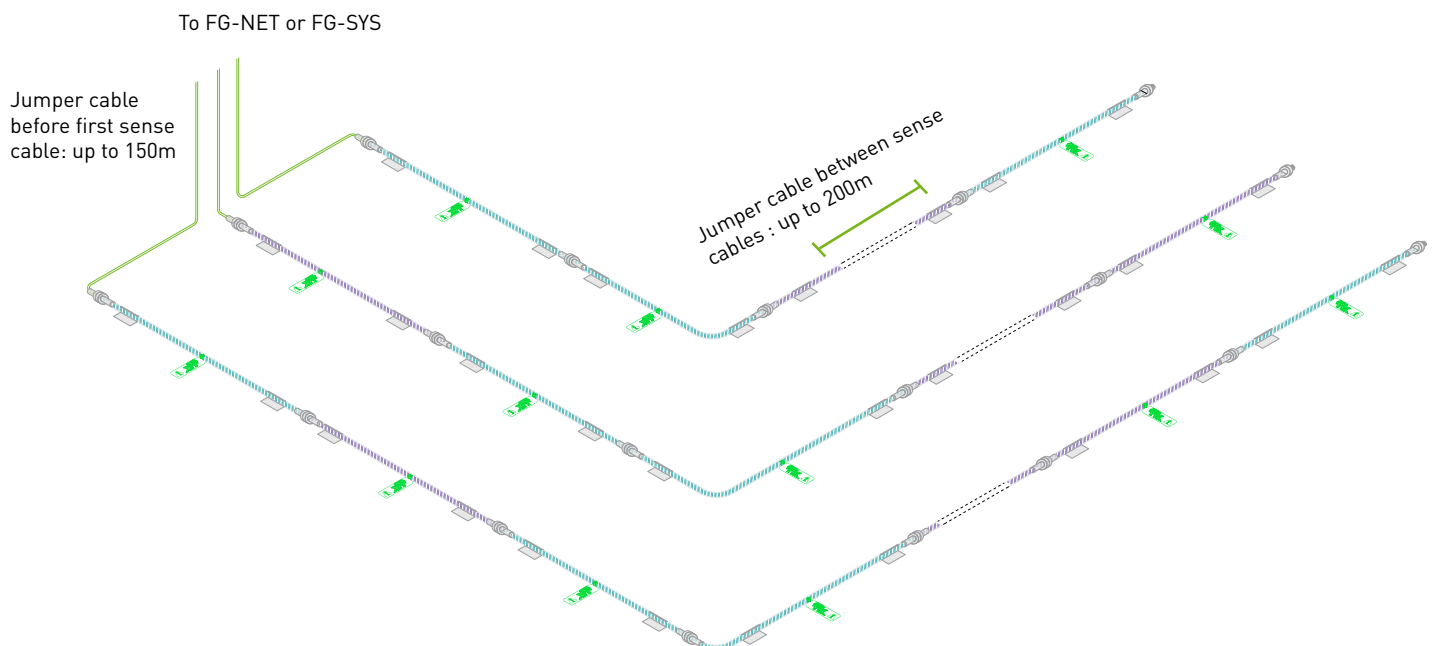

Figure 1.1.1
- Each output can manage up to 40 cables (figure 1.1.1).